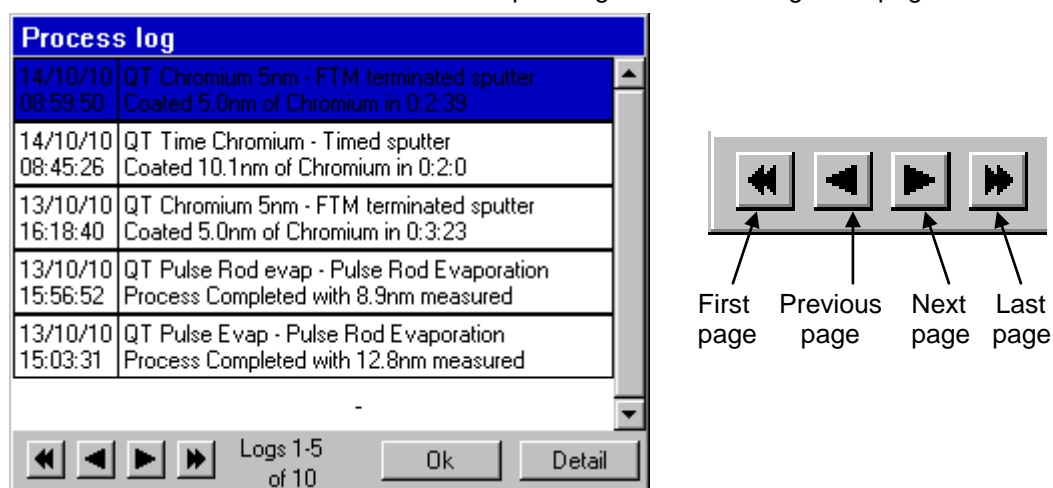

Figure 6-13. Process log and browse buttons
3. The process log is displayed (see Figure 6-13). Process events are listed in order with the most recent at the top of the list.